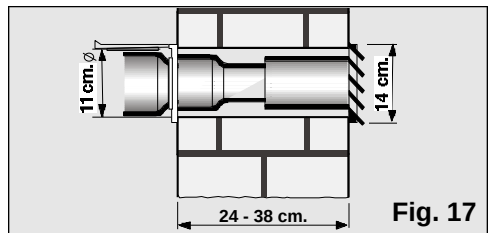

Fig. 17
- ❑ To expel hot air through the wall, it is necessary to make a hole in the wall and fit the wall grommet, **Fig. 17.**